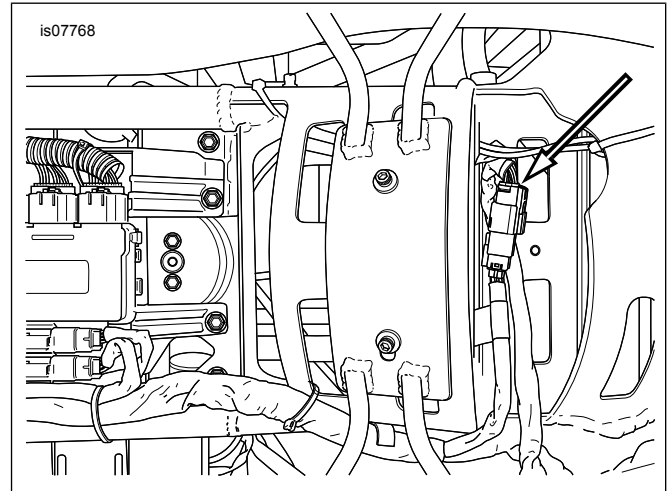

Figure 1. Rear Lighting Connector (typical)
5. See Figure 1. Remove rear lighting connectors and retainers from Original Equipment (OE) positions.